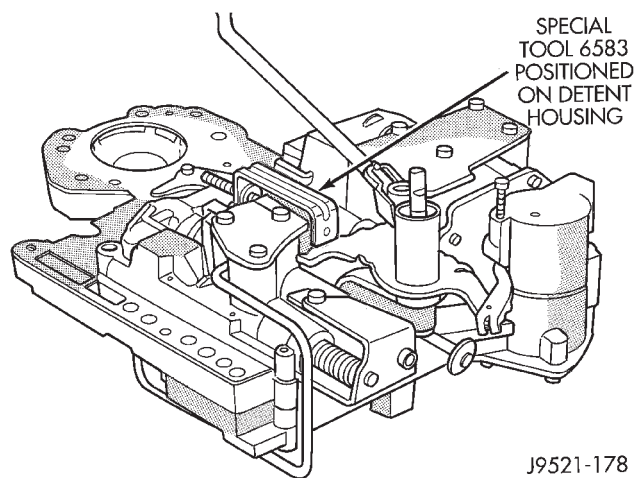

Fig. 44 Detent Ball And Spring
(14) Secure detent ball and spring with Retainer Tool 6583 (Fig. 44).